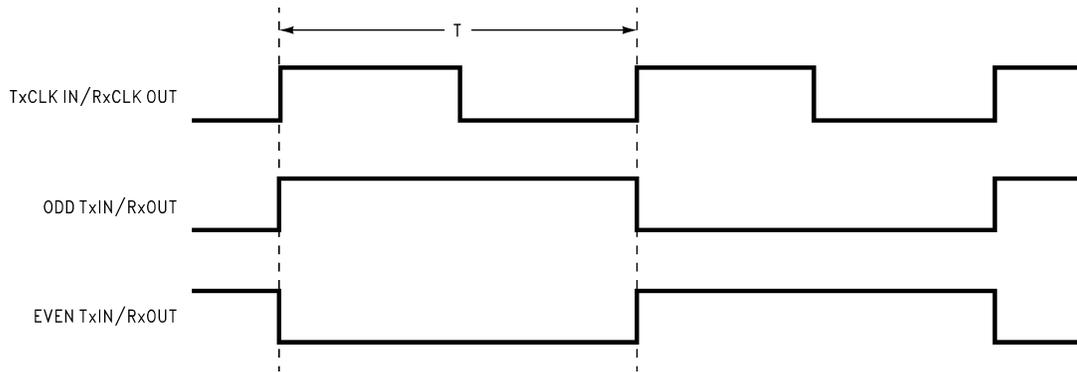

Figure 3. "Worst Case" Test Pattern
| I _{CCTW} | Transmitter Supply Current, Worst Case | R _L = 100Ω, C _L = 5 pF, Worst Case Pattern (Figure 3, Figure 5) | f = 32.5 MHz | | 49 | 63 | mA |
| I _{CCRW} | Receiver Supply Current, Worst Case | C _L = 8 pF, Worst Case Pattern (Figure 3, Figure 6) | f = 32.5 MHz | | 64 | 77 | mA |
- (1) The worst case test pattern produces a maximum toggling of digital circuits, LVDS I/O and CMOS/TTL I/O.
- (2) The 16 grayscale test pattern tests device power consumption for a "typical" LCD display pattern. The test pattern approximates signal switching needed to produce groups of 16 vertical stripes across the display.
- (3) Figure 3 and Figure 4 show a falling edge data strobe (TxCLK IN/RxCLK OUT).
- (4) Recommended pin to signal mapping. Customer may choose to define differently.